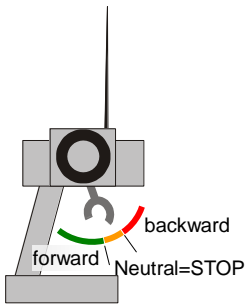

Fig. 3
- e) Boat one way** (fig. 3, 4): Backward run is blocked by SW, throttle moving back from neutral is without effect. Transmitter with lock of STOP pos.